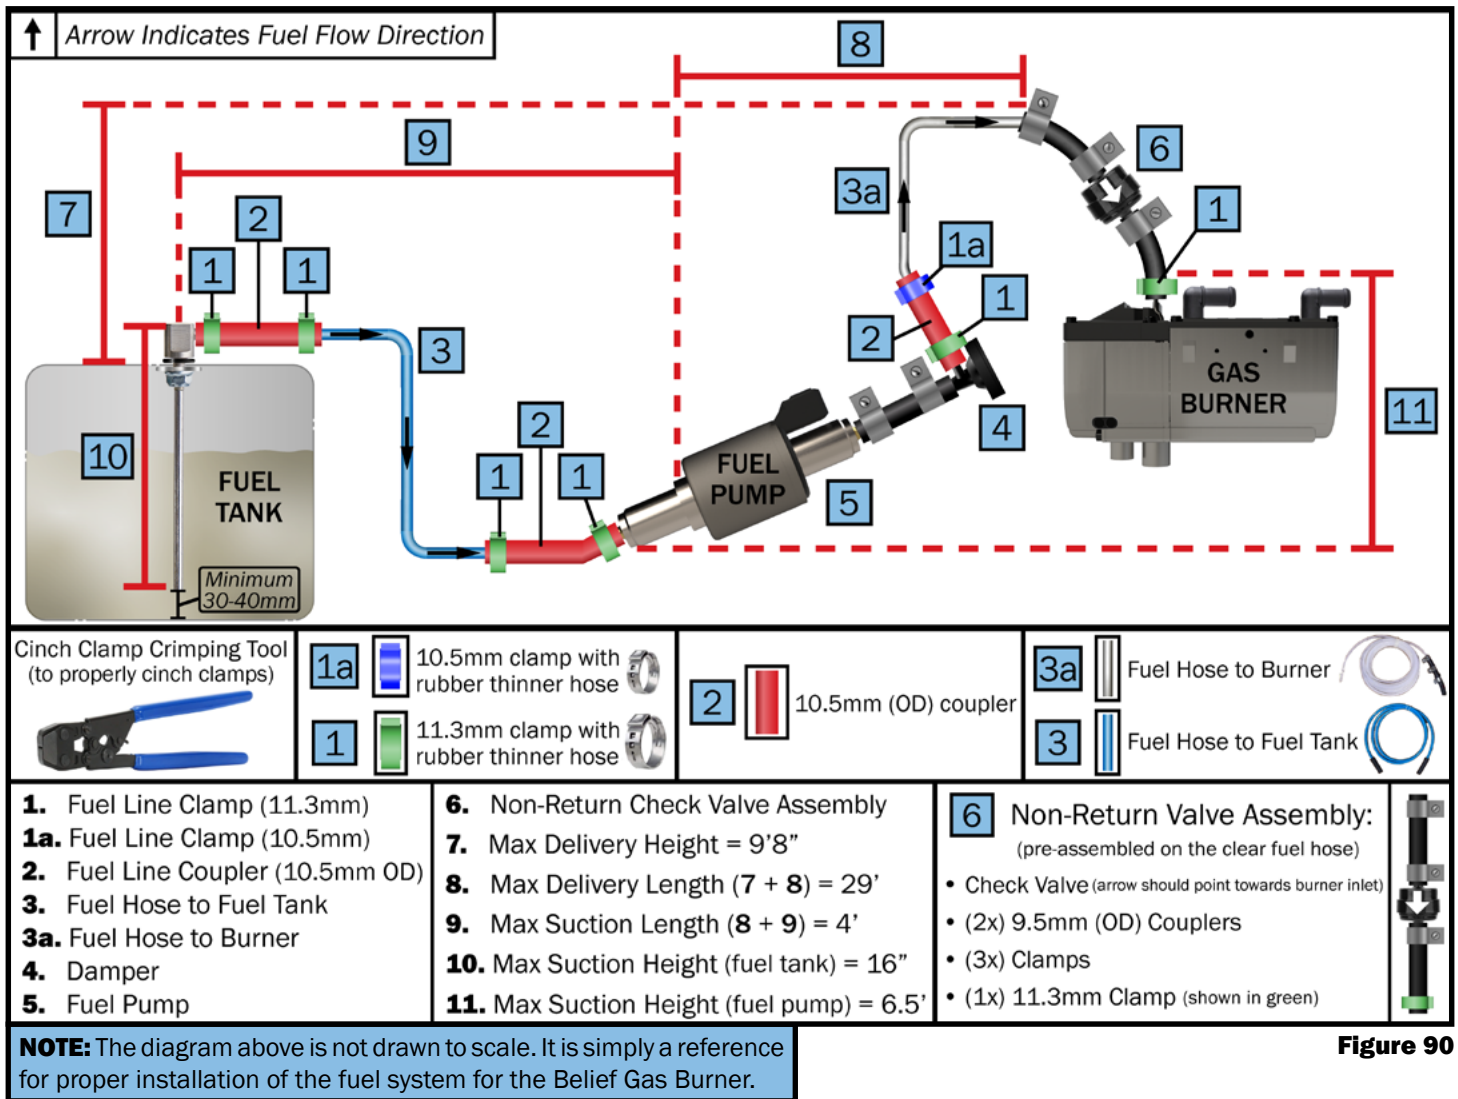
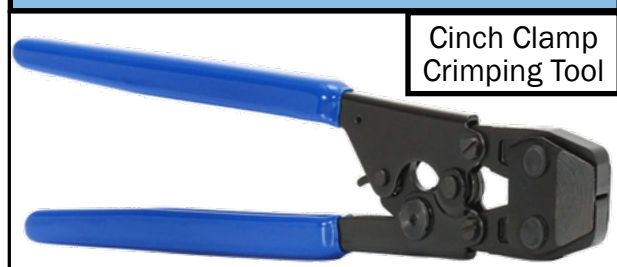

Figure 90
Figure 94
- Use the provided Ø4mm x 1mm (to heater - transparent) fuel hose and Ø2mm x 5mm (to fuel tank - blue) fuel line with the included couplers and clamps. See Figures 90 & 95
- The fuel hose should not be descending from the fuel pump to the burner - see Figure 90.
- The fuel line must be secured to the connections and couplers by hose clamps. See Figures 90 & 95.
- The fuel damper should be installed according to the practical situation. Reference Figure 90 #4.
The two types of clamps used are shown below in the install bags. The clamps are color-coordinated on the bags and also the diagram in Figure 90 to avoid any confusion.
Make sure to confirm the correct couplers and clamps are placed properly according to the diagram in Figure 90. The clamps must be crimped properly using the cinch clamp crimping tool as shown above in Figure 94. Using soapy water or PAM on the fuel lines can assist in sliding the couplers on.